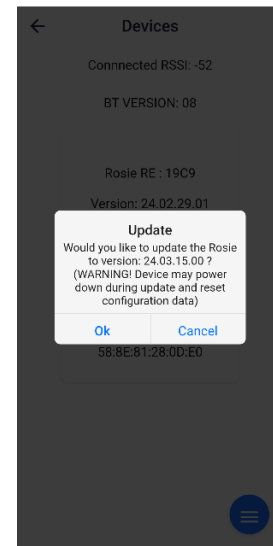

Figure 20
9. The app will check to see if there is a newer version of Rosie firmware. If there is, it will ask if you want to update to it **Figure 20**.